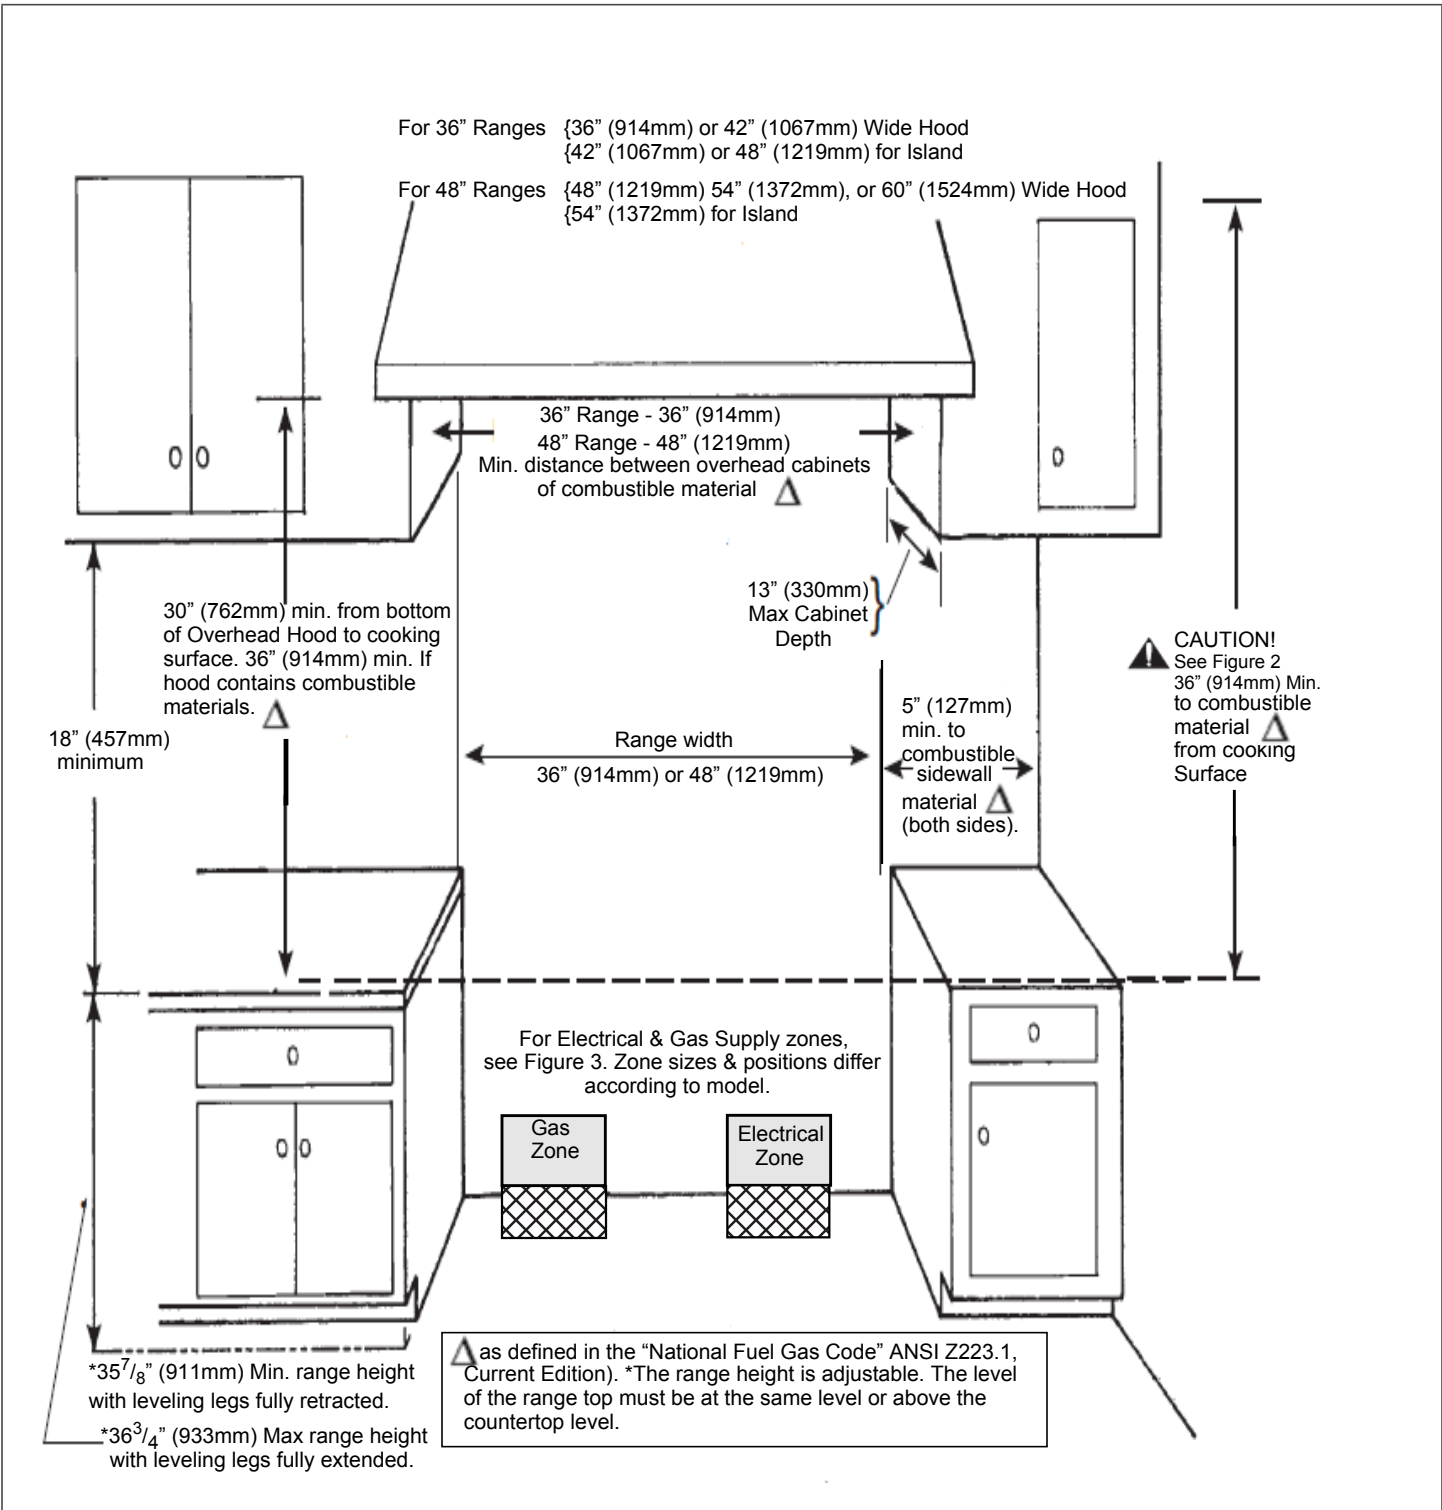

FIGURE 1: CABINET CLEARANCES
- For best smoke elimination, the lower edge of the hood should be installed 30" (762mm) above the range cooking surface (see "Figure 1: Cabinet Clearances" on page 5).
- The range is a free standing unit. If the unit is to be placed adjacent to cabinets, the clearances shown in "Figure 1: Cabinet Clearances" on page 5 are required. The same clearances apply to island installations, except for the overhead cabinets, which must have a space wide enough to accept the flared island hood, as also indicated in Figure on page 5.